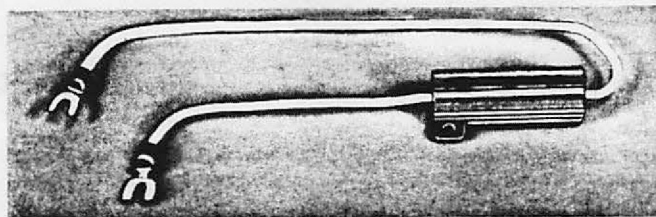

Figure 5.3 — Dynamic Braking Kit
**5.2 Dynamic Braking** — The standard FlexPak Plus controller allows a drive motor to coast to rest after the STOP switch is pressed. Optionally, a user may install a Dynamic Braking Kit. (Refer to Figure 5.3.) Its use allows a rapid, shockless stopping of the drive motor.